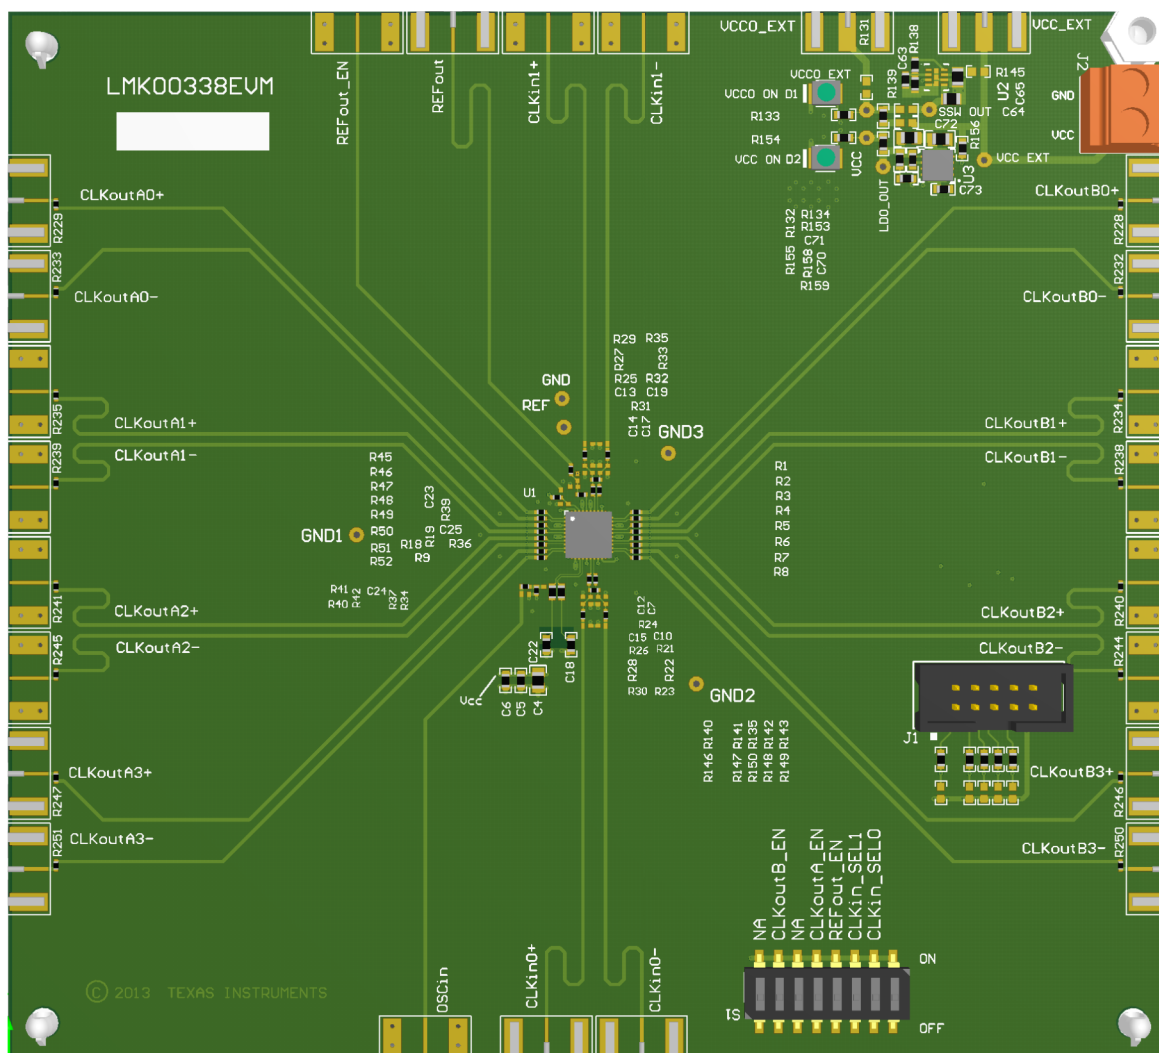

Figure 22. LMK00334 Layout Example
- For DC-coupled operation of an HCSL driver, terminate with 50 Ω to ground near the driver output as shown in Figure 22.